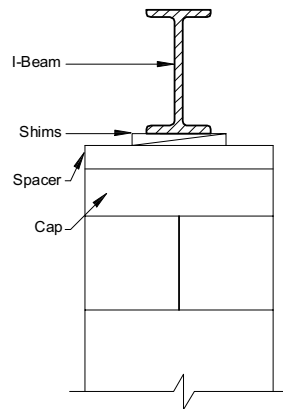

Figure 19. Correct shim placement
- 4. Install shims.** Use shims to level the home and fill any gaps between the base of the I-beam and the top of the pier cap. Always use shims in pairs (**Figure 19**). Drive them in tightly so they do not occupy more than one inch of vertical space. When the space to be shimmed is greater than one inch and less than the minimum thickness of available caps or concrete blocks, use hardwood dimensional lumber (two inches maximum thickness) or 2" or 4" thick concrete block. For split caps, install shims and dimensional lumber/blocks over each individual cap.